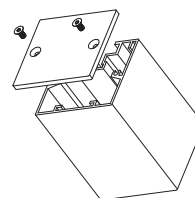

Figure 4a
- If applicable, install end caps at either end of each stick. (Figure 4a)